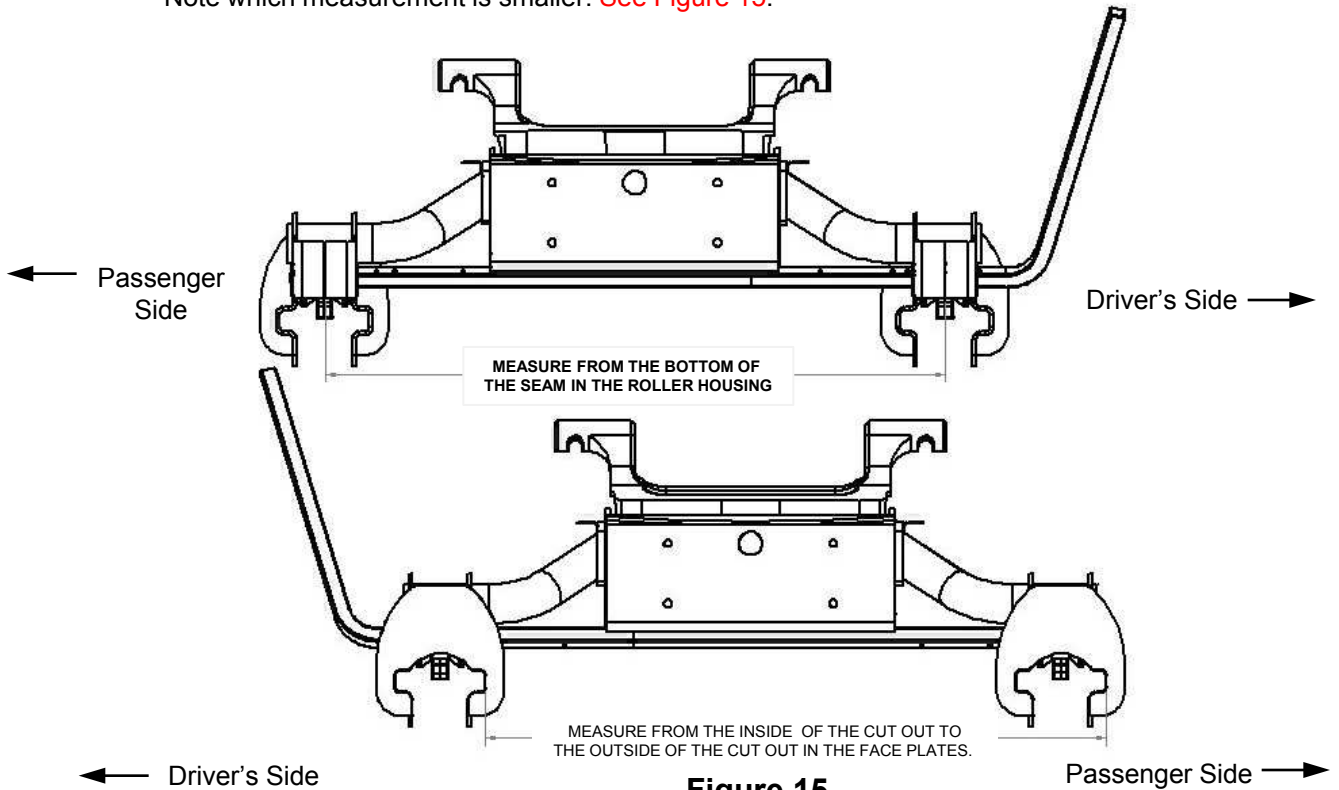

Figure 15
8. Measure from the bottom of the seam in the passenger side roller housing to the bottom of the seam in the driver's side roller housing on the front side of the FIFTH WHEEL Slider Hitch. Measure from the inside to the outside of the cut out in the face plate on the rear side of the FIFTH WHEEL Slider Hitch. Note which measurement is smaller. See Figure 15.